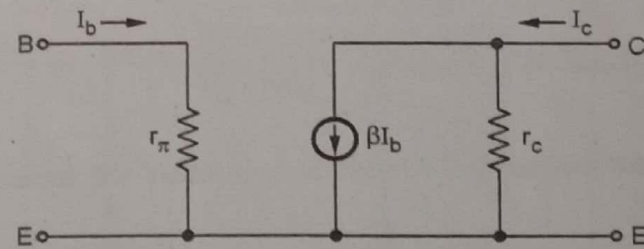

Fig. Q.11.2 CE r_π transistor model
- By replacing h_{ie} with r_π , $h_{fe} I_b$ with βI_b and $1/h_{oe}$ by r_c we have r_π model for CE configuration as shown in Fig. Q.11.2.